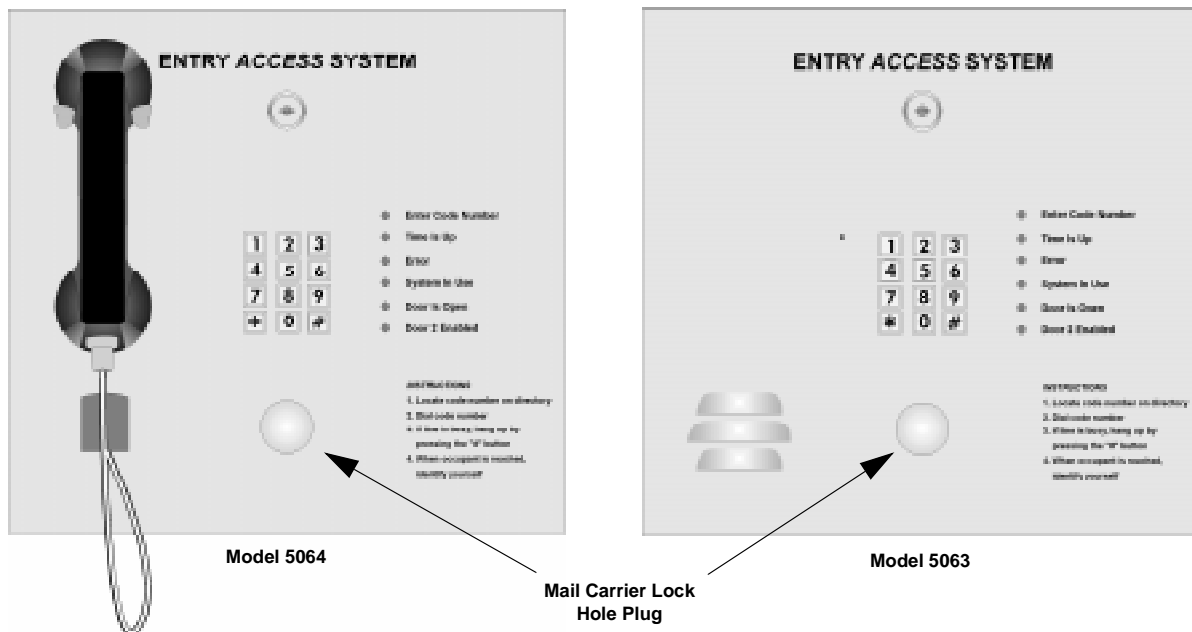

Figure 3-20: Mail Carrier Lock Hole Plug Location
1. Remove the Mail Carrier Lock hole plug. (See Figure 3-20.)